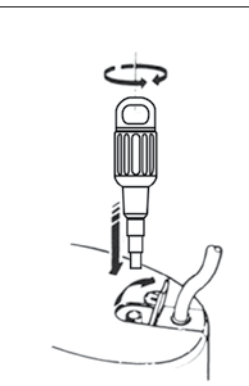

FIG. 5
**AERATION:** For a better oxygenation and gas exchange use the aeration device as follows (fig. 5):